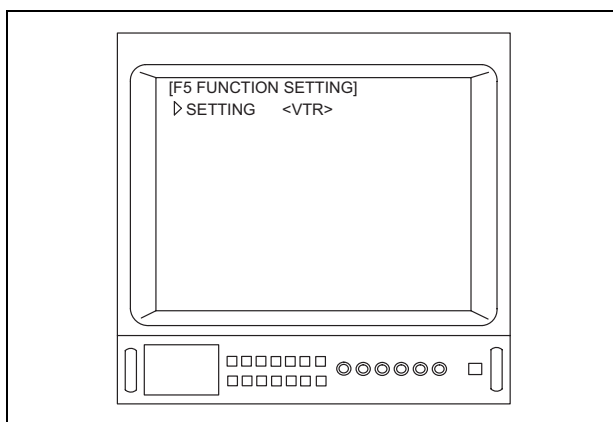

Figure 5.63
1. Depress the “Alt” key and “F5” key on the keyboard at the same time to display the menu (see Figure 5.63).
Depending upon the OTV-S7V's settings, the menus shown in Figures 5.63 and/or 5.64 may appear different from those displayed on the video monitor.